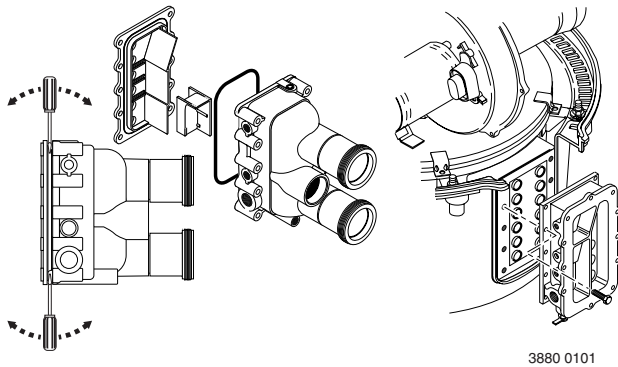

Figure 4-1: Gently pry Bottom Plate off of Manifold.
1. With a screwdriver, carefully pry out the Bottom Plate (See Figure 4-1, Page 4-22). The Insert will come out with it.